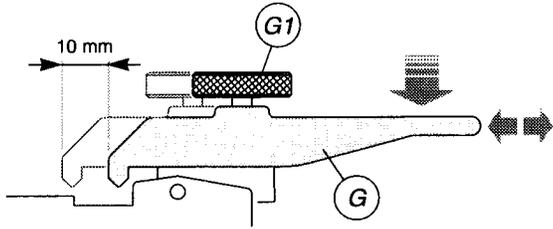
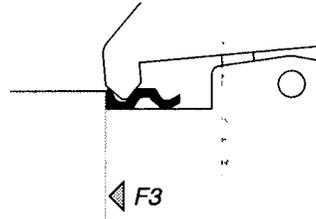

Fig. 10
Fig. 11
- select the side of the key to be marked, press down on the clamp (G) (Fig 10) and place the key with its back on the clamp stop. Position the key as illustrated in Figures 11, 11a or 11b, depending on the profile of the key being marked.
- move the clamp (G) into the position that provides the best gripping pressure on the item to be marked and tighten the knob (G1); the clamp (G) can be moved a maximum of 10mm (0.4") along the X axis. (Fig 10).
- loosen the locking knob (F), move the clamp slide (E) so that the key head butts solidly against the head stop (F1) and lock the slide by tightening the knob (F).